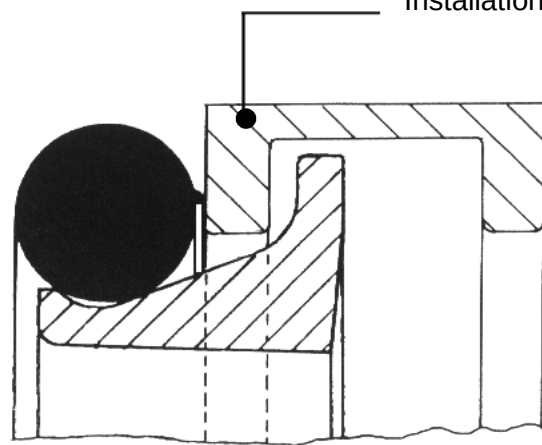

Figure 4b
4.1 For smaller sealing units the following procedure can be used: The spiral cord, as the installation aid, is shortened in length to the extent that it bears against the clamping cone when applying a slight contact pressure (figure 4). The installation aid is intended to prevent the sealing ring from slipping upwards on the clamping cone seat when forcing the ring into the carrier, thus protecting the sealing ring. Since the installation aid will have to be removed again after mounting, it is advisable to attach, as a retrieval aid, a longer adhesive tape to both ends of the spiral cord. For larger units the proper installation tool should be used (see drawing "Dimension Sheet: Installation Tool", the number of this can be found in the parts list "Slip-Ring Sealing." The application of the tool may be seen in figure 4b.